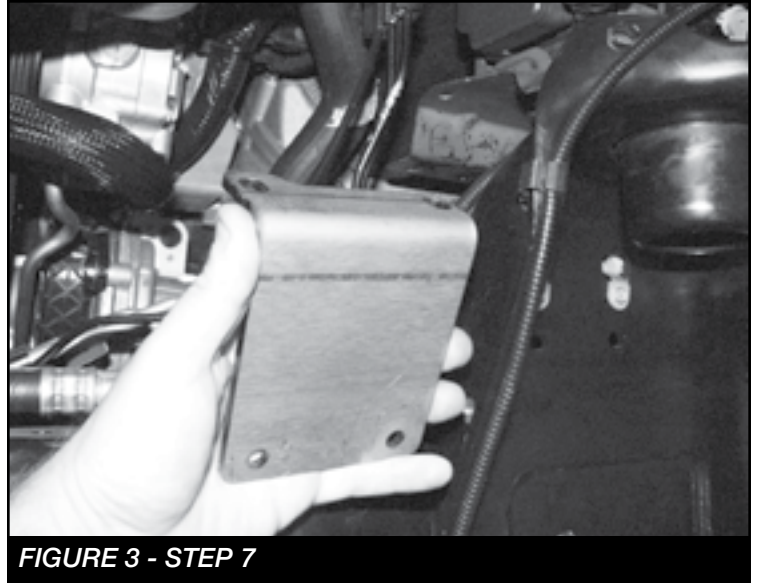

FIGURE 3 - STEP 7
7. Locate and install FT30664 (ABS Bracket) in the same location as the factory bracket previously removed using the factory nuts on the spring perch and the supplied 3/8" X 1-1/4" hardware. Torque to 52 ft-lbs. **SEE FIGURE 3**